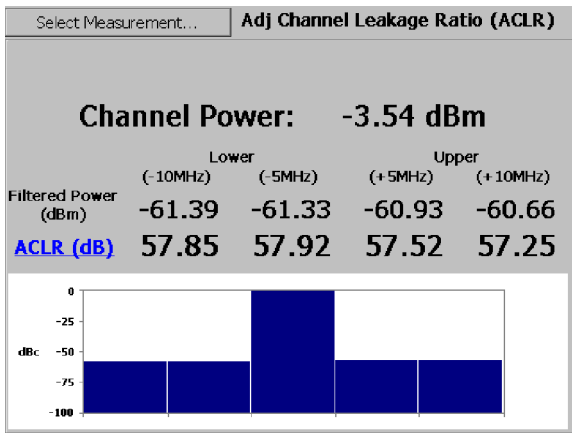

Figure 3-65: A typical ACLR display
4. Tap **ACLR**. See Figure 3-65.